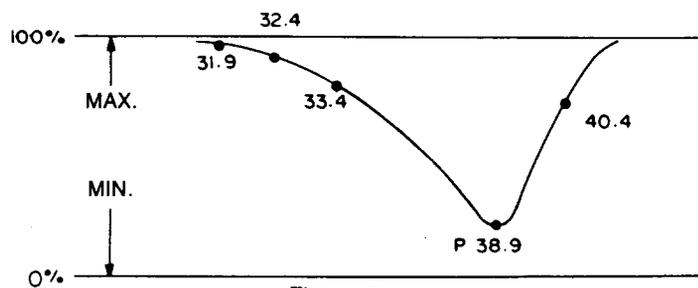

Figure 2
- b) Adjust L103 (Detection Special Quality Adjustment Coil) in order to minimize the PICTURE CARRIER MARK as shown in figure 2. (For Mark Frequency of Each System, refer to the below note (\*)).